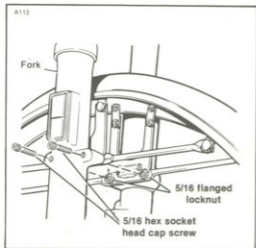

Figure 2-124. Front Fender Removal
2. See Figure 2-124. Remove the four flanged locknuts at the inboard side of the fender brace. Remove the four socket head capscrews.